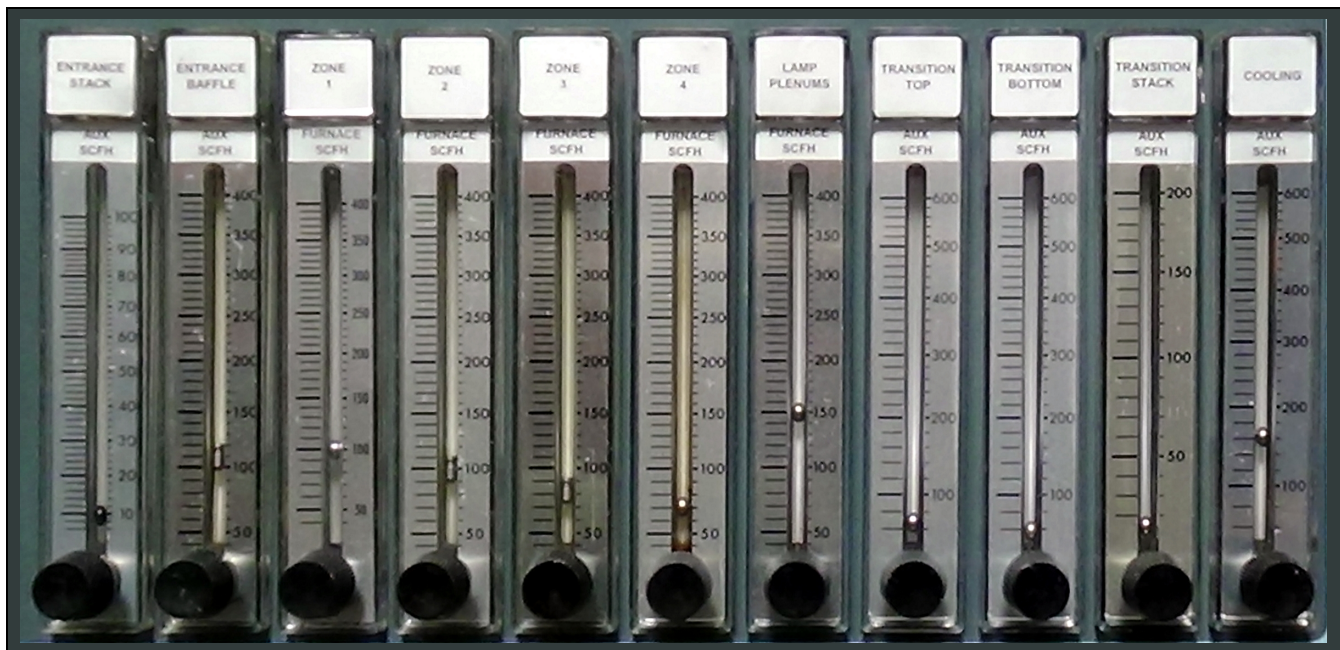

Figure 1-11 Gas Flowmeters - Dual Mode
**Indicates and Controls Process Gas flow.** Atmosphere control is adjusted manually using needle valve flowmeters which control gas flow to the various parts of the furnace and out the exhaust stack in order to achieve overall gas flow balance within the furnace. The flowmeters are graduated in standard cubic feet per hour (SCFH). (See Figure 1-11).